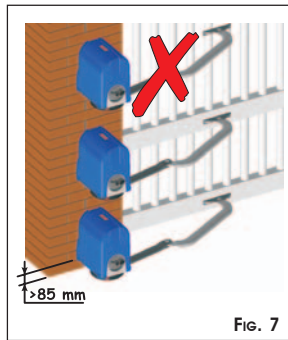

Fig. 7
- ② Establish the height of the operator, bearing in mind that:
- the securing bracket of the curved arm must be in a zone where it can be secured to the gate leaf (Fig.7)
- the minimum off ground height of the operator must permit securing the curved arm and positioning the lower housing (at least 85mm, see fig.7).